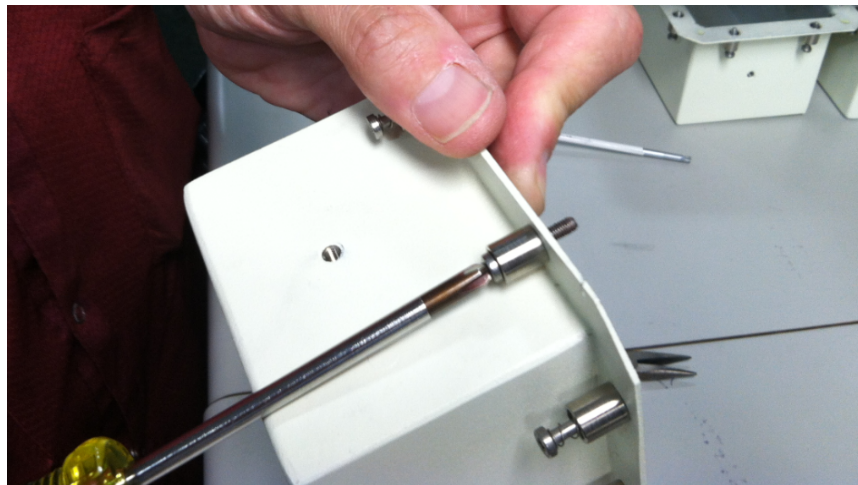

Figure 22: Threading the retention screw through the retainer ring
7. Continue turning until the screw threads are past the retainer ring and the head is flush with the retainer body as shown in Figure 22.